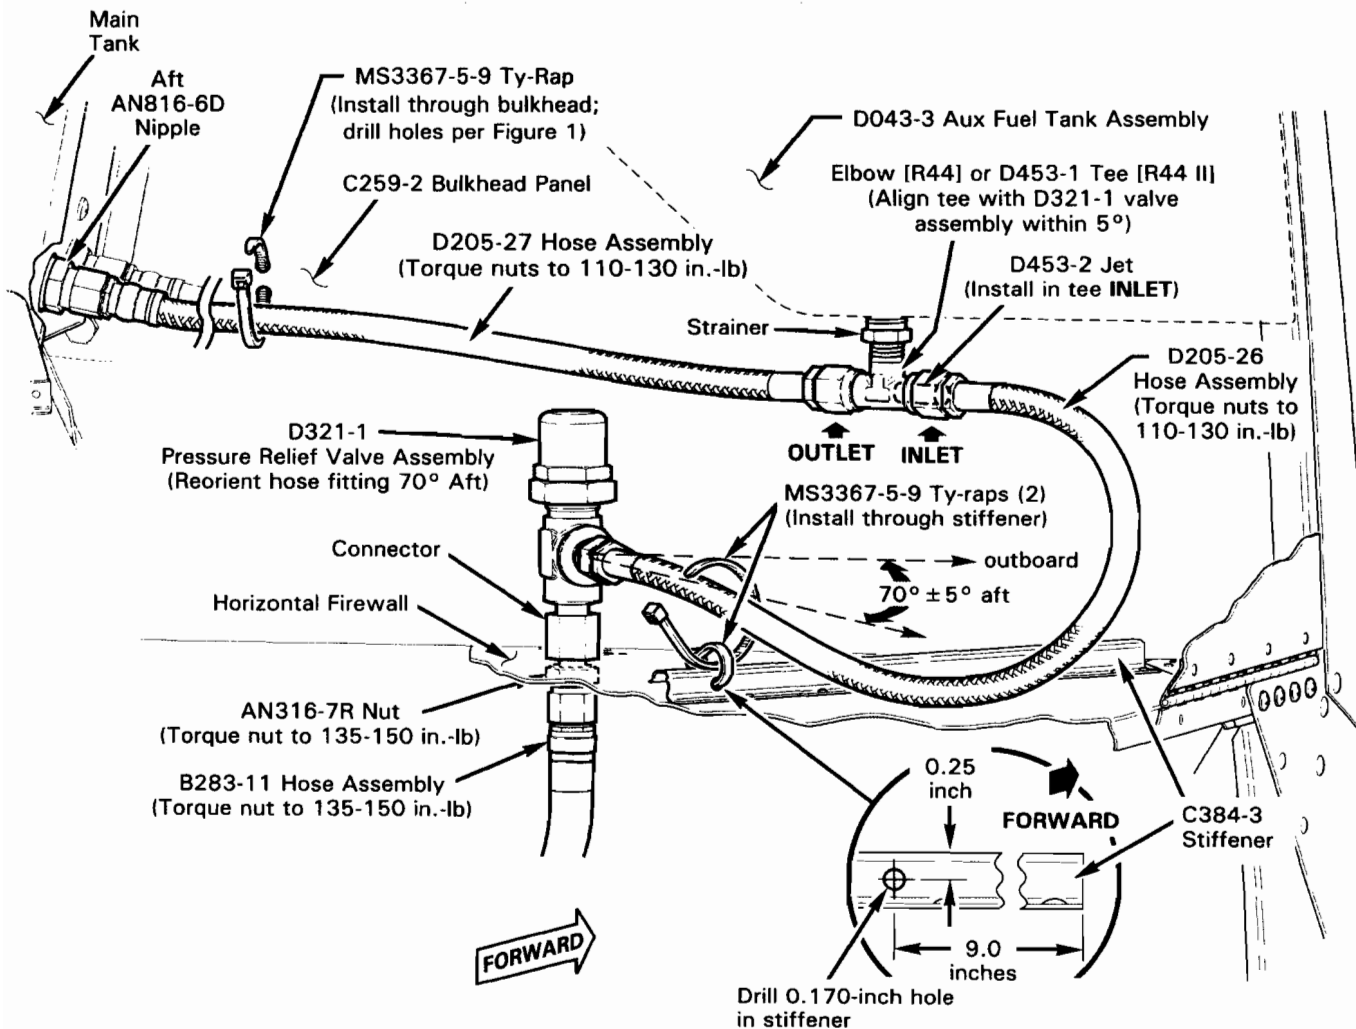

FIGURE 2
(b) R44 II only: Refer to Figure 2. Lay out hole location on C384-3 stiffener. Drill 0.170-inch diameter hole & deburr. Clean up debris.
- (b) R44 II only: Refer to Figure 2. Loosen B283-11 hose assembly at connector under horizontal firewall, then loosen AN316-7R nut. Rotate relief valve so fitting points $70^\circ \pm 5^\circ$ aft and special torque AN316-7R nut to 135-150 in.-lb. Special torque B283-3 hose assembly nut to 135-150 in.-lb, and torque stripe both nuts per MM Figure 2-1.
- (c) R44 II only: Refer to Figure 2. Apply B270-6 sealant sparingly to tapered pipe threads of D453-1 tee (do not apply sealant to first thread). Install tee in aux fuel tank outlet, torque to 110 in.-lb, then tighten tee to align with relief valve assembly within 5° . Torque stripe tee per MM Figure 2-1.
- (d) R44 II only: Refer to Figure 2. Install D453-2 jet in tee inlet (outboard side). Connect D205-26 hose assy to relief valve & tee inlet, torque hose assy nuts to 110-130 in.-lb, & torque stripe per MM Figure 2-1. Ty-rap hose to C384-3 stiffener with two MS3367-5-9 ty-raps. Cinch ty-raps until snug without over-tightening, and trim tips flush with heads.
12. Refer to Figure 2. Connect D205-27 hose assembly to main tank aft AN816-6D nipple and aux tank elbow or tee. Special torque nuts to 110-130 in.-lb. and torque stripe per MM Figure 2-1. Install MS3367-5-9 ty-rap around hose thru drilled holes in bulkhead. Cinch ty-rap until snug without over-tightening, and trim tip flush with head.